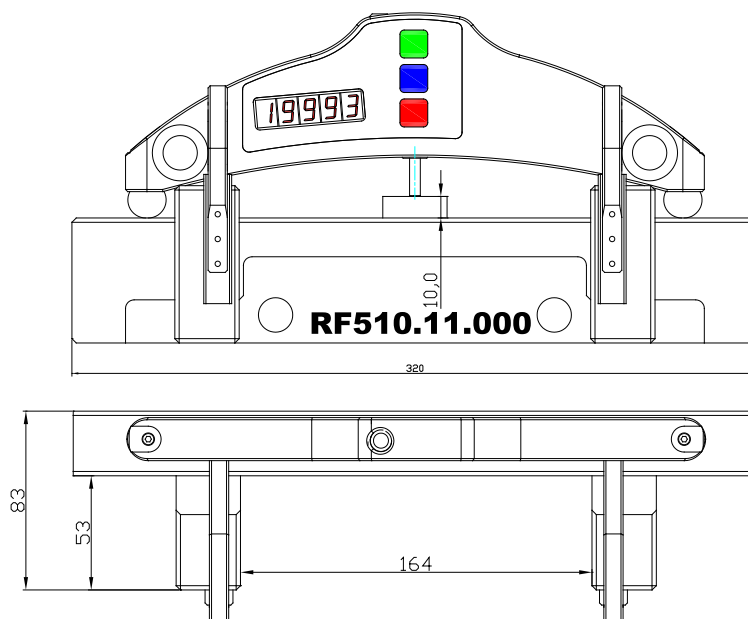

Figure 4
- Calibration plate with the deviation from flatness less then $\pm 0,5 \text{ um}$ for 250 mm length (or Flat block RF510.11.000, figure 4);